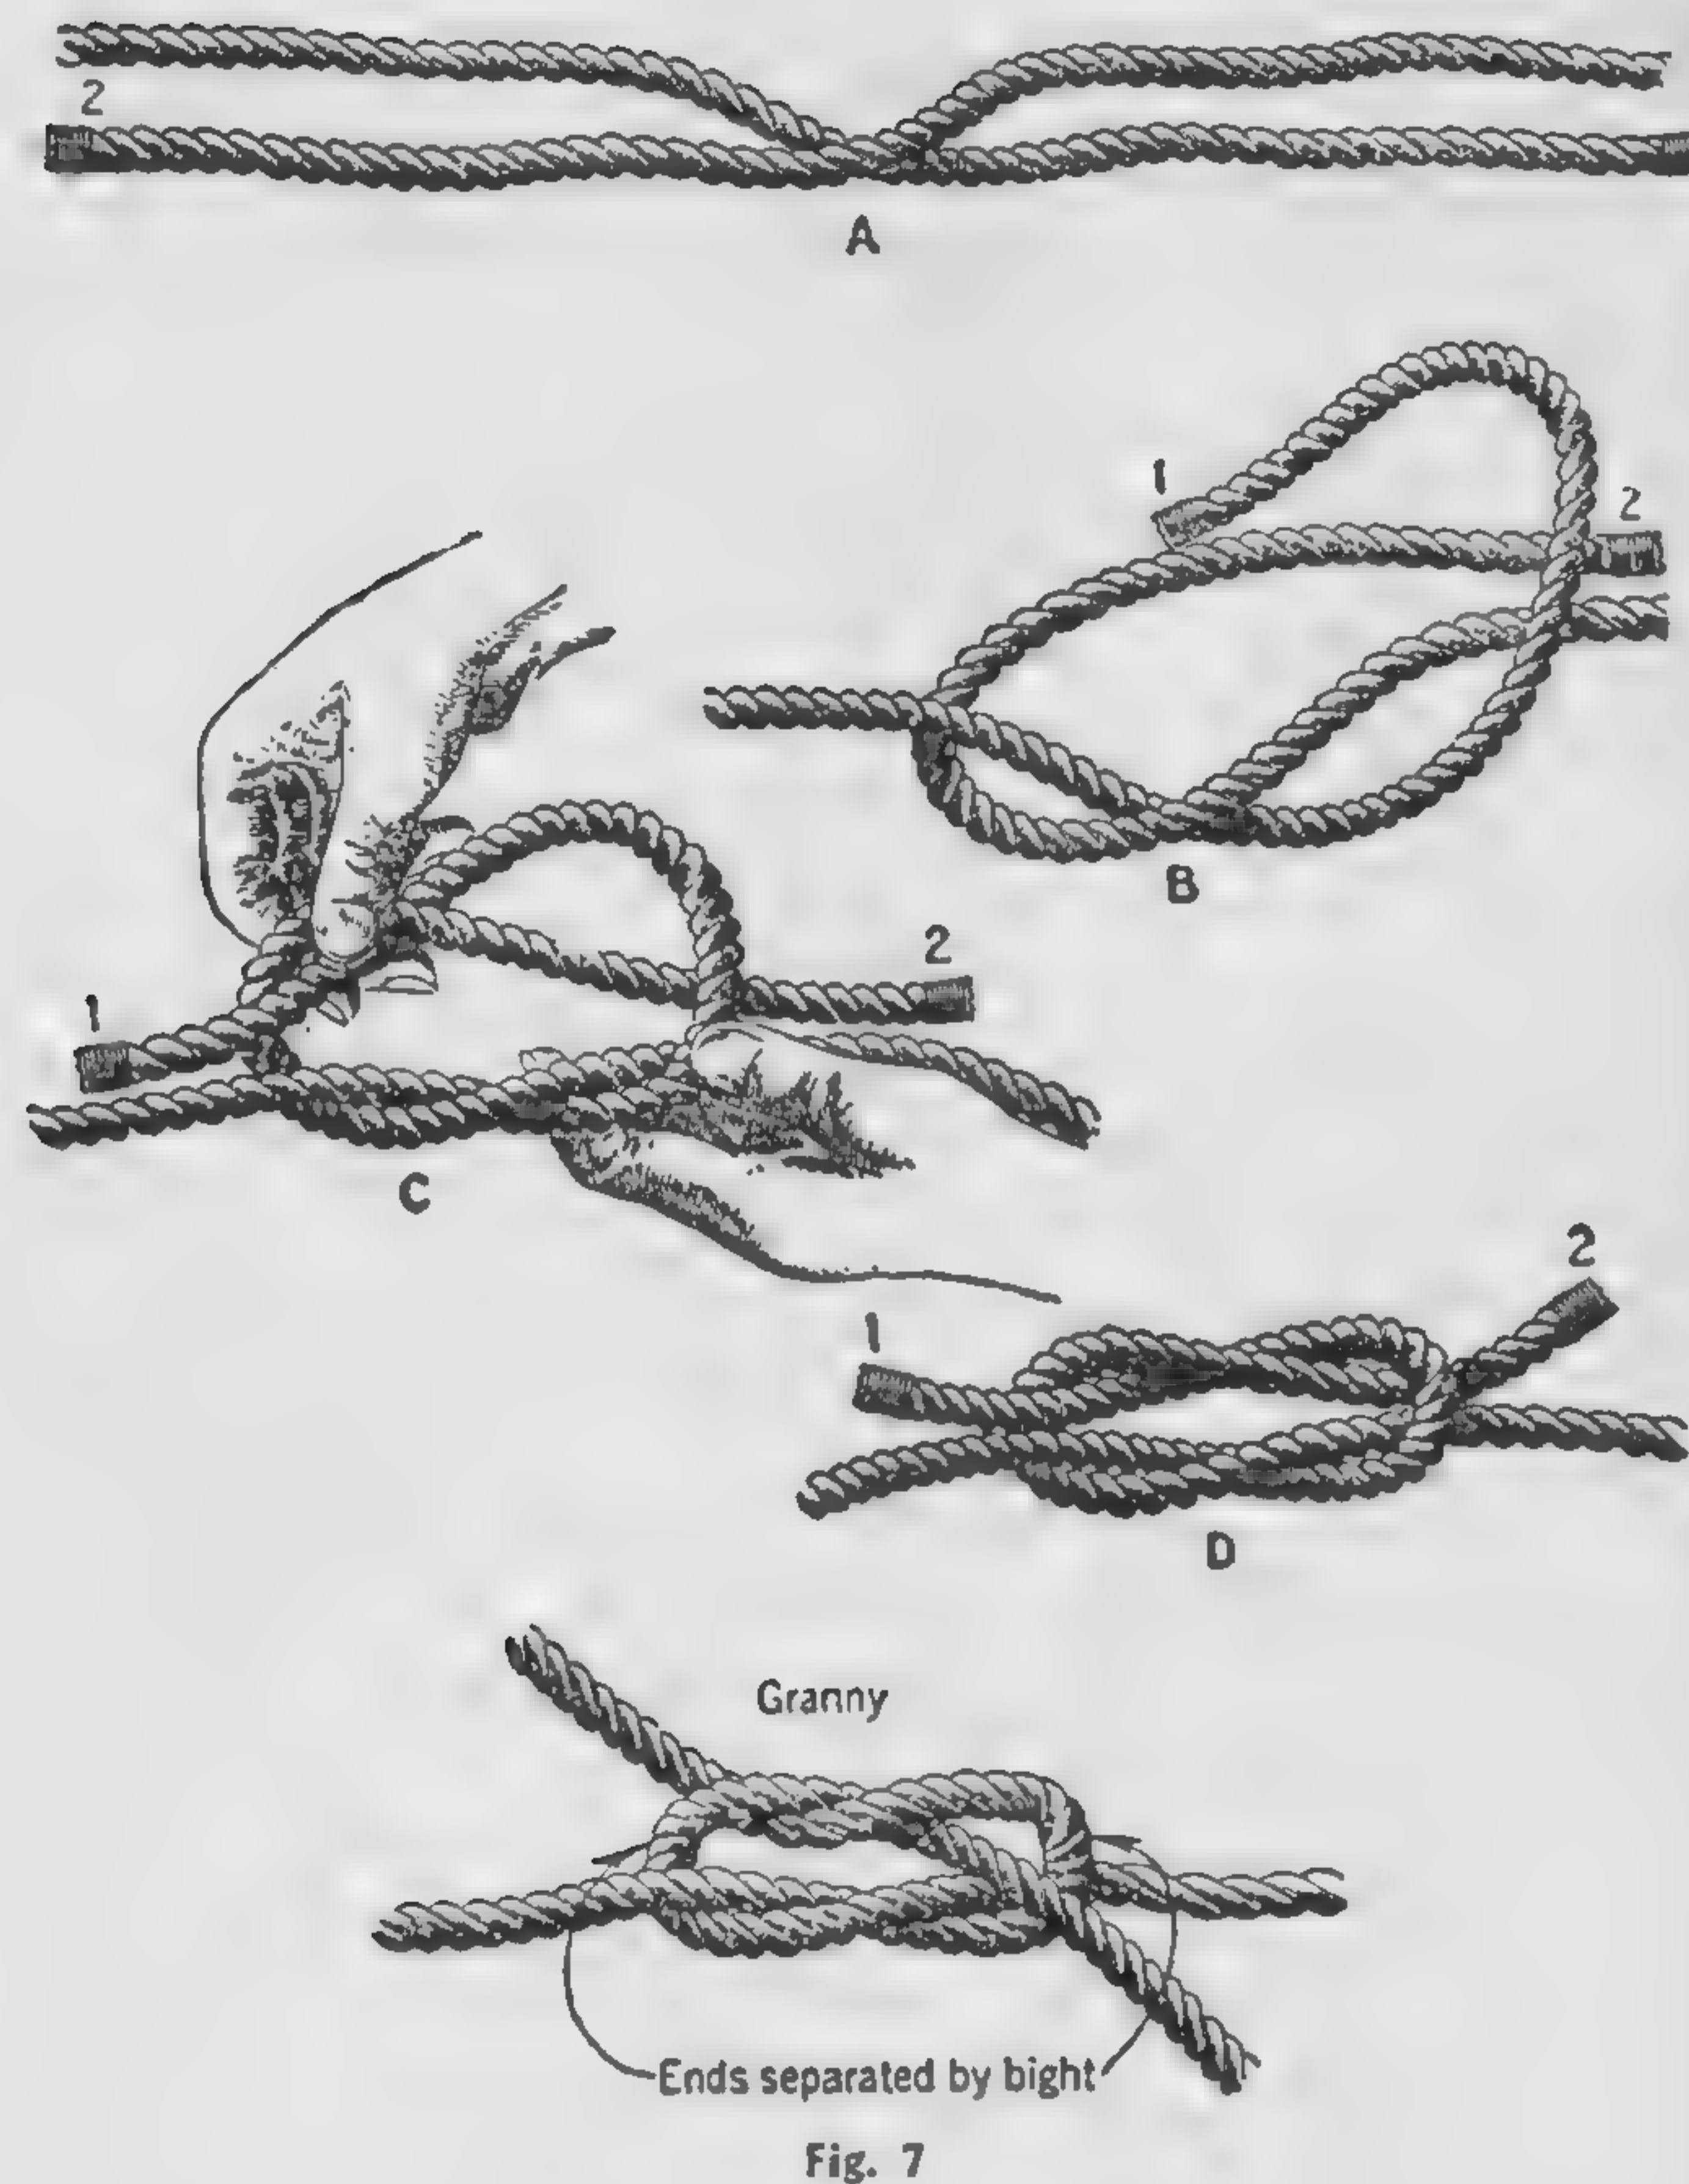

Fig. 7
Square Knot. This knot is used in uniting the ends of the same size ropes, that may be placed under strain. A square knot, joining two ropes of unequal size is very apt to slip. Fig. 7 illustrates a square knot.
1. Cross the ends of the rope, placing the right under the left as at A in Fig. 7.
A *granny knot* is shown in Fig. 7, so that it may be readily identified and avoided.